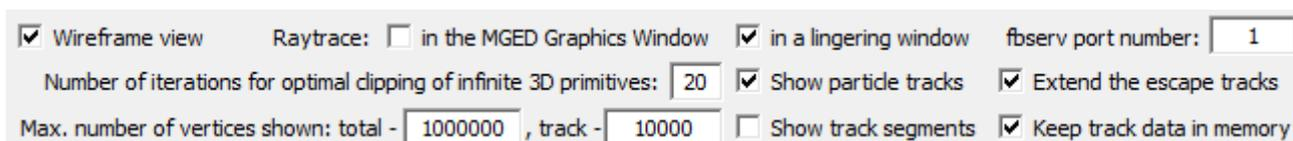

Fig. 6.6. The controls for specifying the amount of data to show in MGED.
The group of text boxes and checkboxes above the grid control “Materials” (see Fig. 6.6), excluding the checkbox “Keep track data in memory”, which is duplicated in the “Track statistics” dialog (see Section 4), are used for specifying the amount of data that should be shown in MGED:
- If the checkbox “Raytrace in a lingering window” is checked, then a so-called lingering window with the raytraced image will be created (this does not require the MGED framebuffer to be active). Unlike the MGED Graphics Window, the lingering window shows *only* the raytraced image of the 3D objects of the simulation setup, and does not show the wireframe view or any of the supplemental lines (i.e., the particle tracks and the beam axis). An example of a lingering window with a raytraced image is shown in Fig. 5.1. Each lingering window has an associated framebuffer server port number, which must be entered in the text box “fbserve port number” (see Fig. 6.6). In order to open a new lingering window without closing the previous one, both the port number and the name of the MGED database (saved in a file with extension “.G”) must be changed. The name of the MGED database file is the same as the RT script file name (the latter can be changed by changing the MCNelectron input file name or the suffix used to form the name of the RT script file).
- The two text boxes at the bottom of this group of controls (see Fig. 6.6) are used to limit the number of track vertices shown in the MGED Graphics Window (here, the term “vertices” includes not only the internal nodes, but also both the initial and final points of the piecewise-linear curve representing each track). The number entered in the first text box (“total”) is the maximum allowed total number of vertices (summed over all tracks shown). If that number is exceeded, then some of the tracks will not be shown (those are the last tracks of the current set of tracks). If the text box “total” is empty, then all tracks will be shown (the same effect is achieved by entering “-1” in this text box). The number entered in the second text box (“track”) is the maximum number of vertices allowed in a single track. If the number of vertices in a track exceeds the latter number, then some of the vertices will be skipped when drawing the track in MGED. The initial and final points of a track and the vertices corresponding to the first and last collisions are never skipped. Consequently, the minimum number allowed in the text box “track” is 4. The difference of the sequence numbers of each skipped vertex and the previous skipped vertex is approximately constant. If the text box “track” is empty, then all vertices of each track will be shown (the same effect is achieved by entering “-1” in this text box).